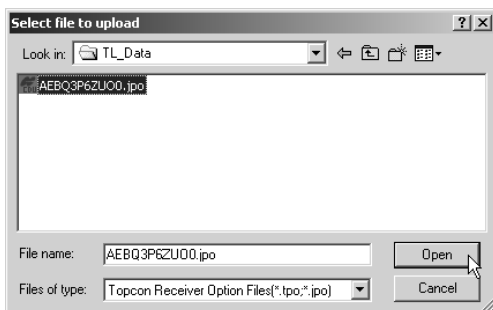

Figure 2-38. Select File To Upload
4. On the *Select file to upload* dialog box, navigate to and select the OAF file for this TPS receiver (Figure 2-38).